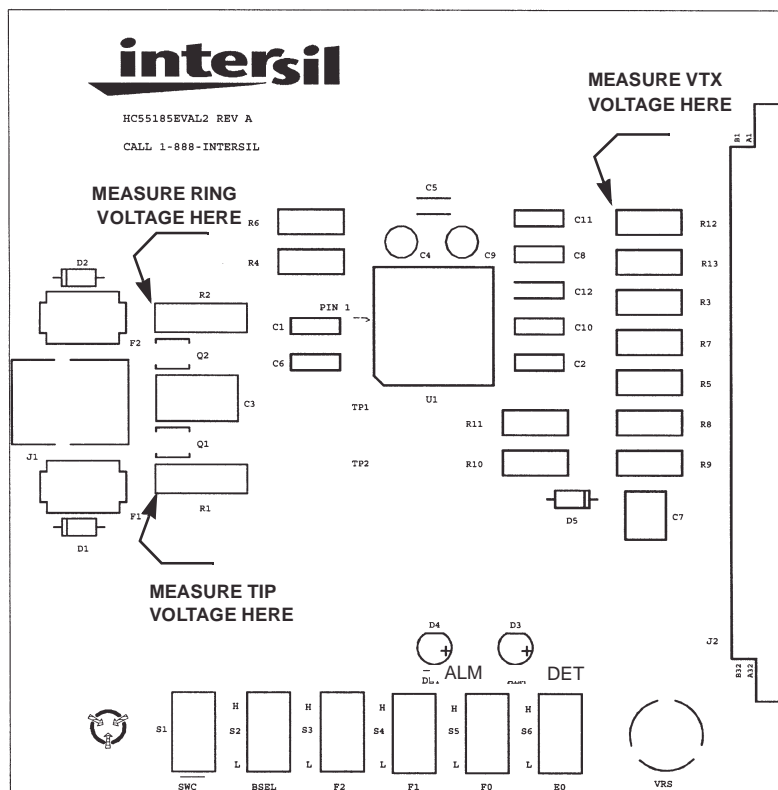

FIGURE 4. DAUGHTER BOARD LAYOUT
The daughter board is equipped with five (5) Single Pole Double Throw (SPDT) switches and one normally open push button switch. The switches labeled E0, F0, F1, and F2 control the logic state HC55185 and the switch labeled BSEL selects between the high battery and low battery. When BSEL is a logic high the high battery is selected and when low the low battery is selected. The push button (SWC) controls the operation of the uncommitted switch. Press the button and the uncommitted switch is closed. TP1 and TP2 (located near the center of the daughter board, Figure 4) provide a direct connection to the terminals of the uncommitted switch.
Verify that the HC55185 is oriented in its socket correctly. Correct orientation is with pin 1 lined up with the pin 1 indicator on the board (Figure 4). (Reference the data sheet for device pinout.)
5. Set S2, on the daughter board, to the high battery position BSEL = 1 (switch lever towards top of board). Reference Figure 4.
8. Measure the tip and ring voltages (reference Figure 4) on the left side of resistors R1 and R2 with respect to ground and compare to those in Table 3 (onhook).
1. Set S2, on the daughter board, to the low battery position BSEL = 0 (switch lever towards bottom of board). Reference Figure 4. (Damage to SLIC can occur in high battery operation.)